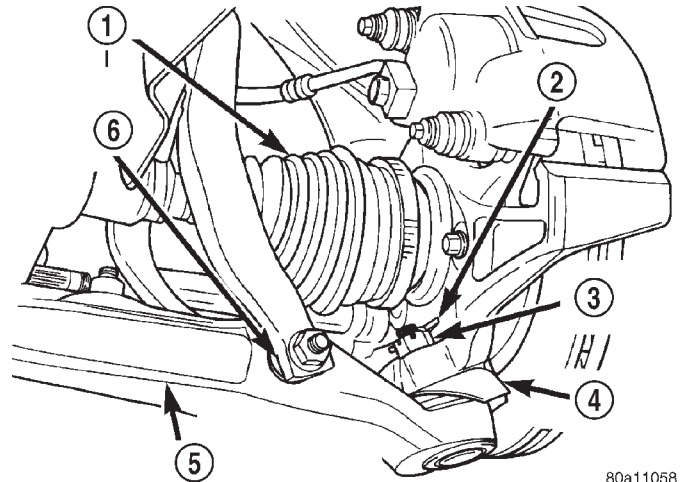
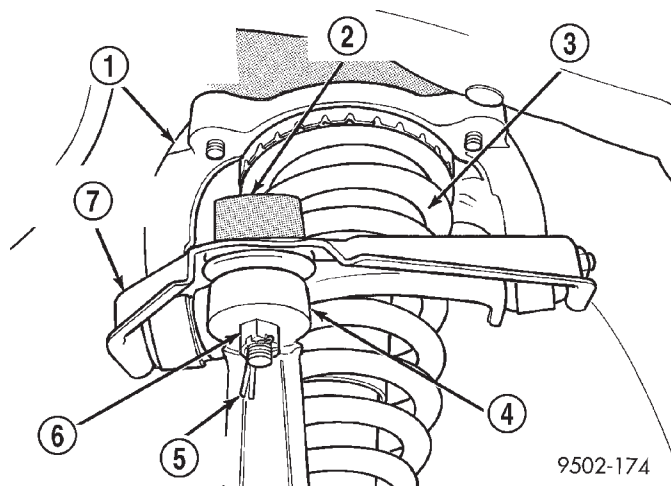

Fig. 20 Lower Ball Joint Attachment To Steering Knuckle
Fig. 23 Upper Ball Joint Attachment To Steering Knuckle
(11) Remove cotter pin and castle nut (Fig. 20) from the stud of the lower ball joint.
(15) Remove the cotter pin and nut (Fig. 23) from the upper ball joint stud to steering knuckle attachment.
(2) Install the heat shield for the lower control arm ball joint grease seal before beginning the installation of the steering knuckle on the vehicle.
(3) Slide drive shaft back into front hub/bearing assembly. Then install steering knuckle onto the ball joint stud in lower control arm.
(4) Install the steering knuckle to lower ball joint stud castle nut.
(5) Install upper ball joint in steering knuckle. Install the steering knuckle to upper ball joint nut. Tighten the upper ball joint castle nut (Fig. 23) to a torque of 54 N·m (40 ft. lbs.). Then, using a crowfoot and torque wrench, tighten the lower ball joint nut (Fig. 20) to a torque of 75 N·m (55 ft. lbs.). Install cotter pins in upper and lower ball joint studs.